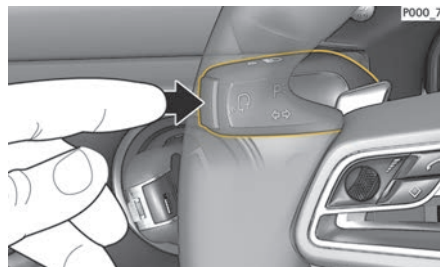

Fig. 238: Voice control button on the control stalk
1. Press **VOC** on the control stalk (Fig. 238).
- ▶ Press **VOC** on the control stalk (Fig. 238).
The **VOC** (Fig. 238) button on the control stalk initiates different functions depending on the application:
1. Press  on the control stalk (Fig. 238 on page 271).